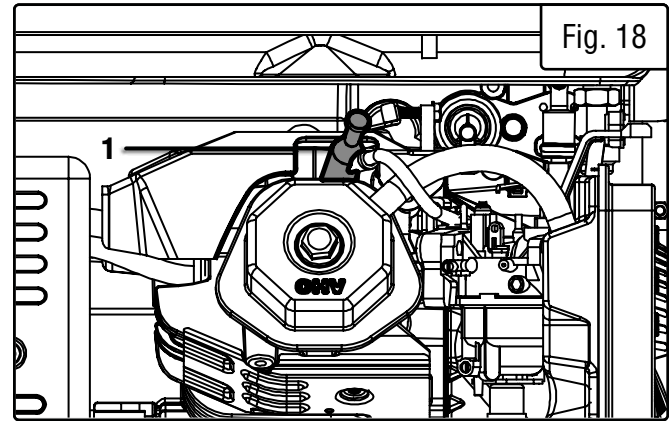

Fig. 18
1. Pull on the spark plug boot to remove it (Fig. 18 - 1). Be careful not to tear insulation or wire.